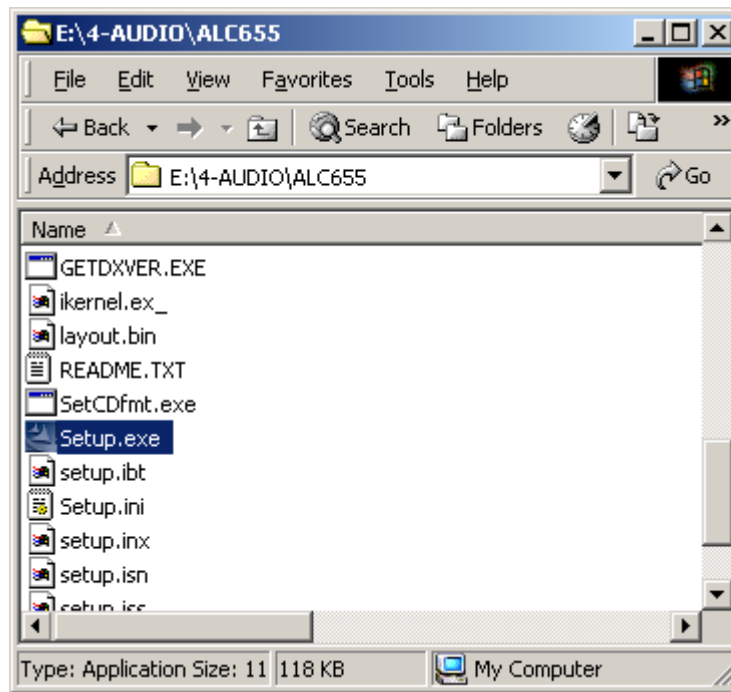

Figure 7-24: Locate the Setup Program Icon
Step 4: Double-click the **Setup.exe** program icon in **Figure 7-24**.